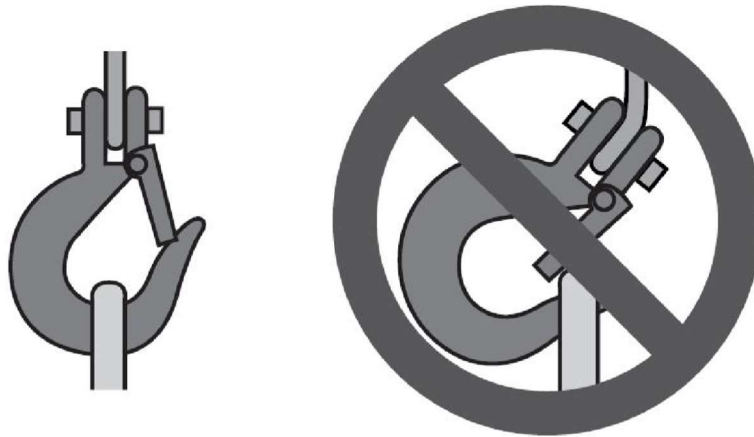

Figure 2
- Properly seat the sling or other device in the base (bowl or saddle) of the hook (Figure 2). Do not allow the hook hitch to support any part of the load.
- Do not apply the load to the point of the hook (Figure 2).